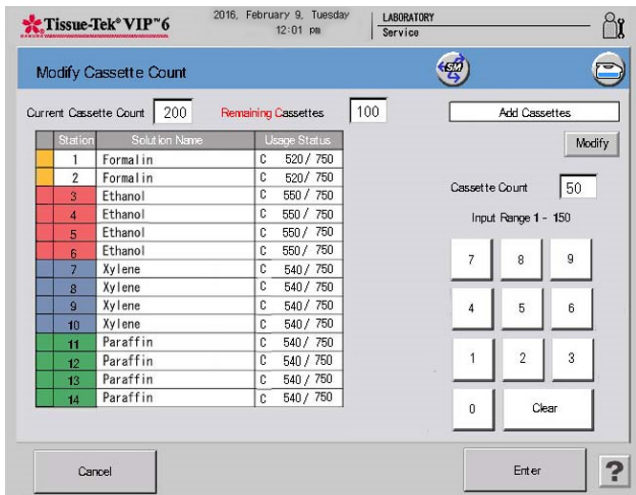

Figure 4-K
- The Modify Cassette Count Screen displays (Figure 4-K)